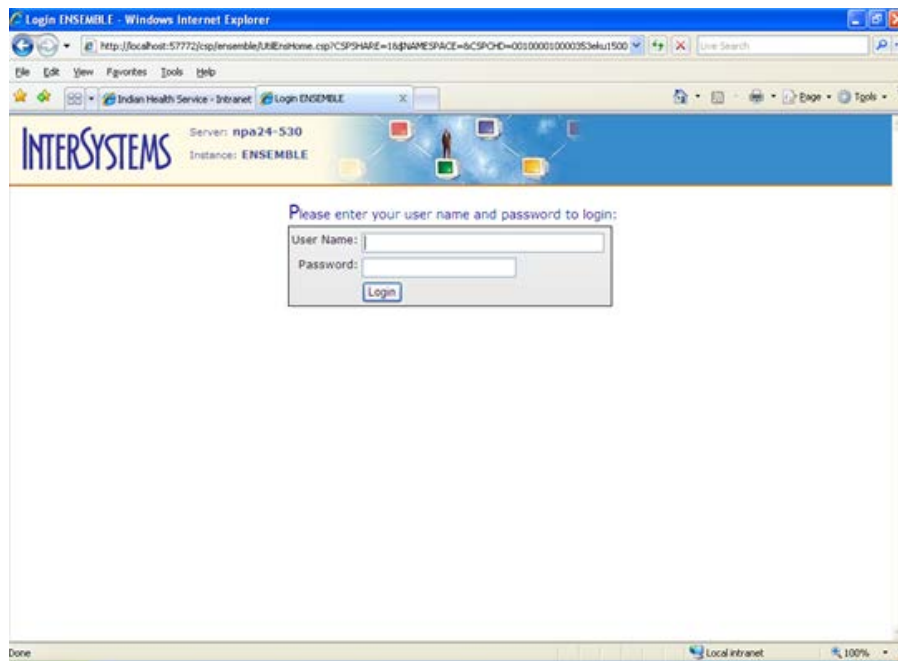

Figure 3-11: Ensemble login page
2. Click the Ensemble cube and select **System Management Portal** from the context menu. If your site's system security requires you to log in to Ensemble, the Ensemble login page is displayed, as shown in Figure 3-11.